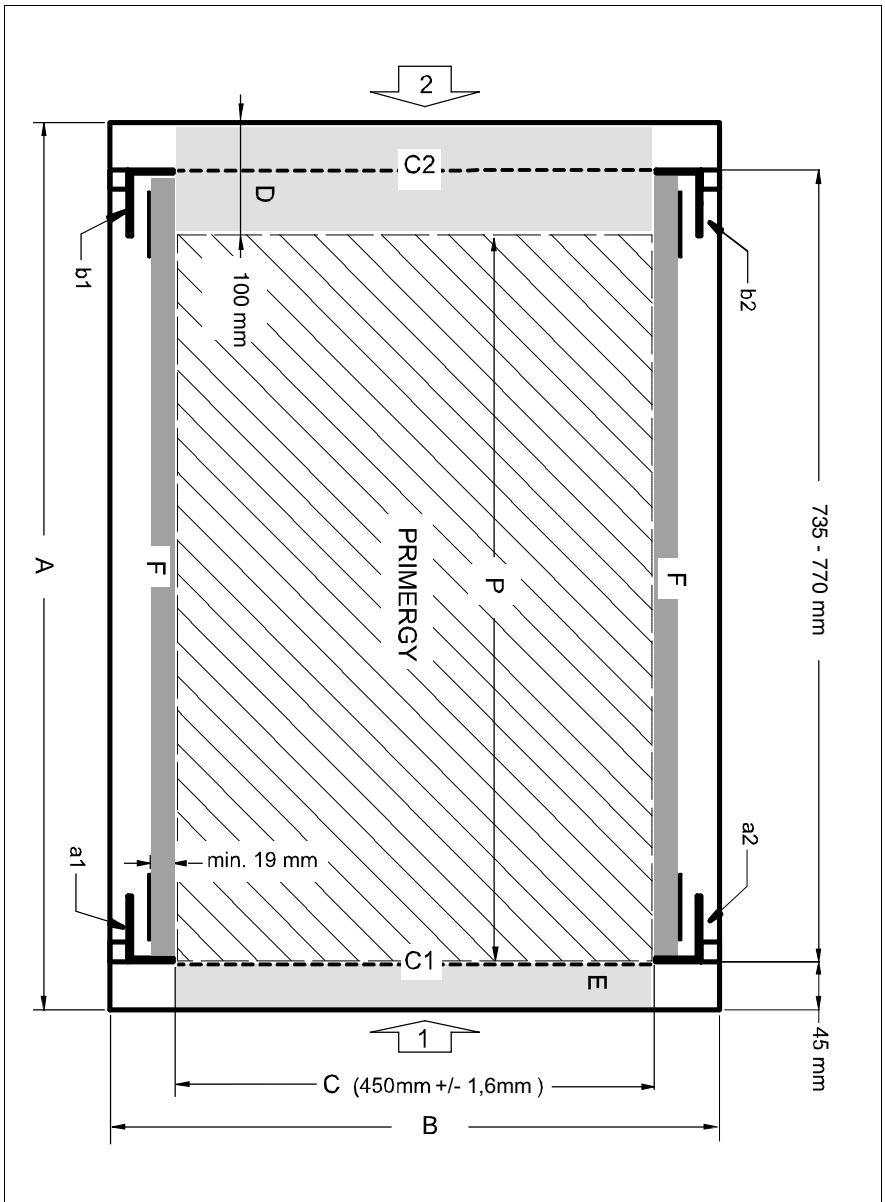

Figure 3: Mechanical requirements
– Installation dimensions (see the dimensions shown in figure 3 on page 51):